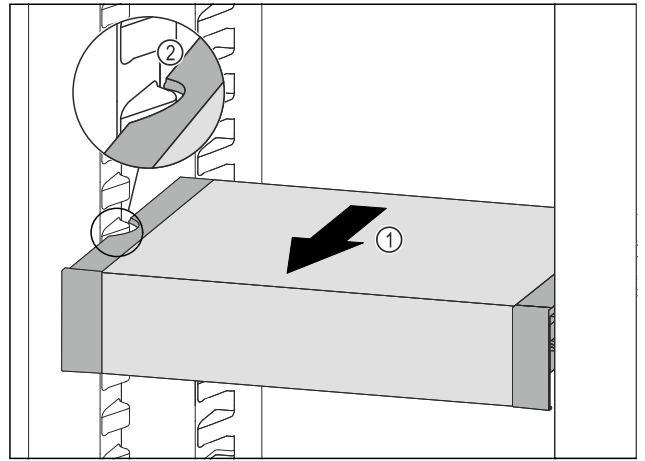

Fig. 125
- ▶ Pull VarioSafe forwards Fig. 125 (1) until the recesses in the side of the VarioSafe are at the level of the support rib in the fridge section. Fig. 125 (2)